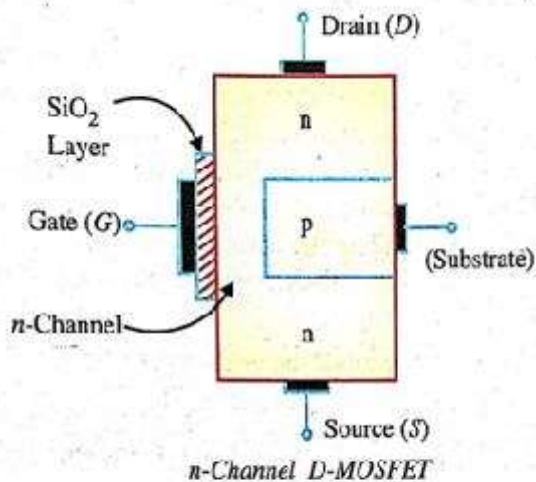

Fig. 19.43
1. **D-MOSFET.** Fig. 19.43 shows the constructional details of *n*-channel *D-MOSFET*. It is similar to *n*-channel *JFET* except with the following modifications/remarks :
(i) The *n*-channel *D-MOSFET* is a piece of *n*-type material with a *p*-type region (called *substrate*) on the right and an *insulated gate* on the left as shown in Fig. 19.43. The free electrons (\therefore it is *n*-channel) flowing from source to drain must pass through the narrow channel between the gate and the *p*-type region (i.e. substrate).